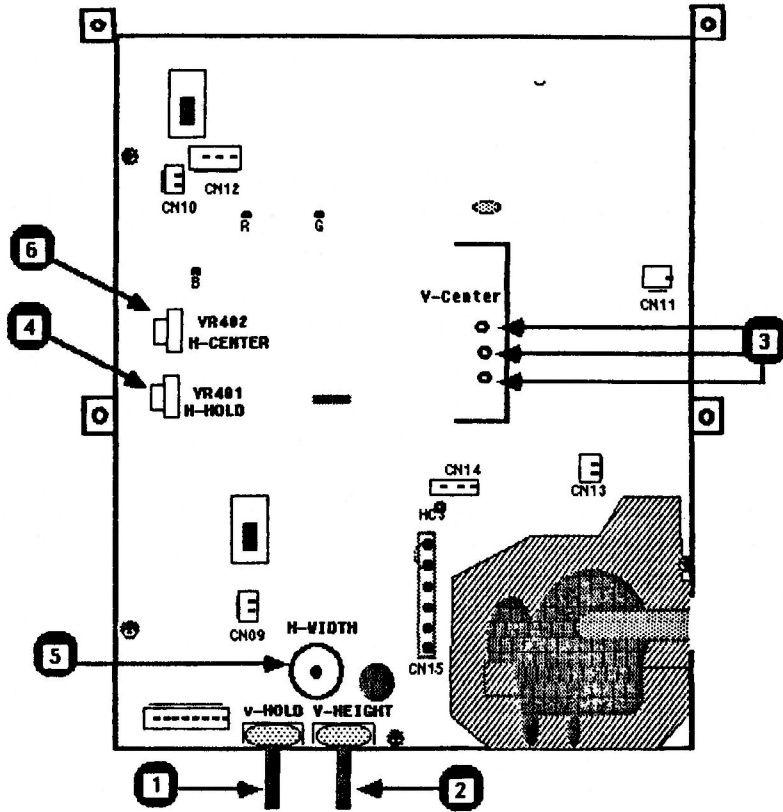

FIGURE 3
1. **Vertical Hold:** Set the vertical hold control VR301 (Figure 3, #1) to the mechanical center by turning it all the way to the left, then to the right, then back to the center of the range between left and right of its rotation. This should lock the picture on the screen and prevent any rolling.
2. **Vertical Height:** If the vertical height of the image is incorrect, then adjust V-HEIGHT VR302 (Figure 3, #2) until the picture is about 1/4 inch away from the top and bottom edges of the screen.
3. **Vertical Center:** If the vertical position of the entire image is off, carefully connect the H-C4 connector (Figure 3, #3) to the best position pin to correct this problem. (On the AppleColor Monitor 100 Rev. A, the three pins are not as perfectly aligned as those shown in Figure 3, #3). BE CAREFUL, IT IS CLOSE TO THE CRT NECK!
1. **Horizontal Hold:** If the picture on the tube is not locked and is tearing, adjust H-HOLD R402 (Figure 3, #4).
2. **Horizontal Width:** The image should be about 1/4 inch away from each side of the screen. If the width of the image looks too narrow or too wide, adjust the H-WIDTH L406 (Figure 3, #5) until you have the desired width.
3. **Horizontal Center:** If the image is too far to one side of the screen, adjust H-CENTER VR402 (Figure 3, #6) until the image is centered.